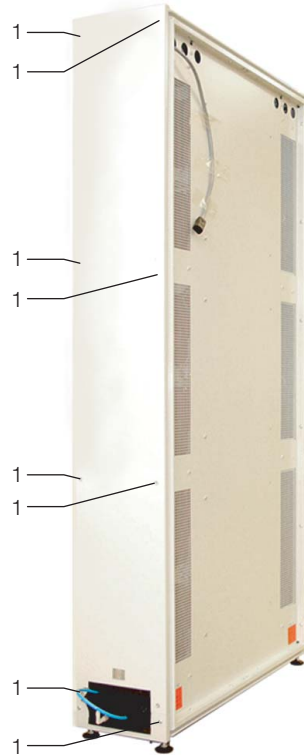

Fig. 27: Liquid Cooling Package (rear)
- Loosen the 8 assembly screws (Fig. 27, Pos. 1) on the rear panel of the Liquid Cooling Package and remove the rear panel.